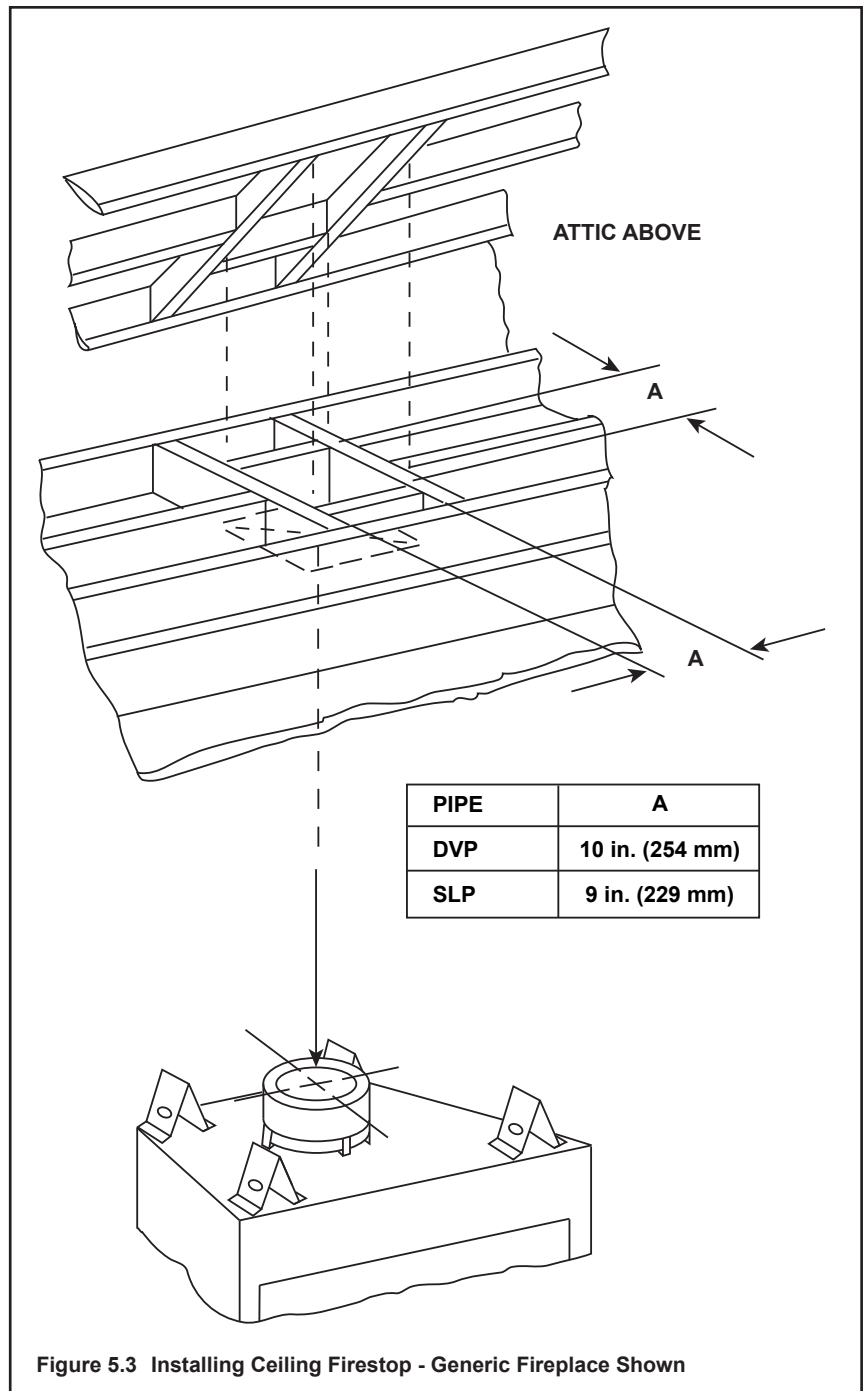

Figure 5.3 Installing Ceiling Firestop - Generic Fireplace Shown
- **DVP pipe only** - Frame an opening 10 in. by 10 in. (254 mm by 254 mm) whenever the vent penetrates a ceiling/floor (see Figure 5.3).
- **SLP pipe only** - Frame opening 9 in. x 9 in. (229 mm x 229 mm) whenever the vent penetrates a ceiling/floor (see Figure 5.3).